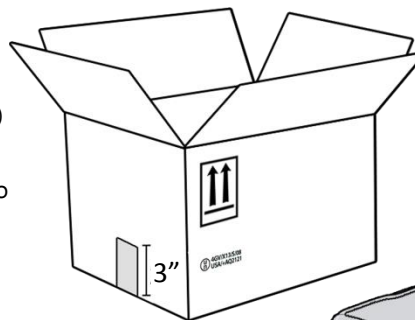

Figure 2
2. Seal center seam with three (3) strips of 48mm wide, 3M #305 clear packing tape (or equivalent). Tape must overlap side to side and extend beyond each edge by at least 3". (See Figure 2)